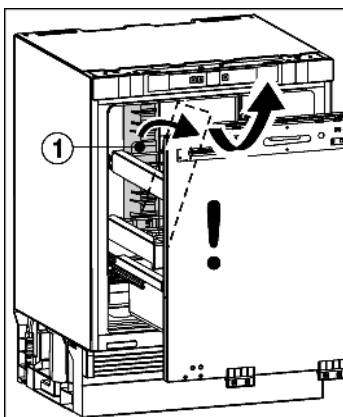

Fig. 3
- Swing the transport safety device Fig. 3 (1) to the side and remove it from the front.